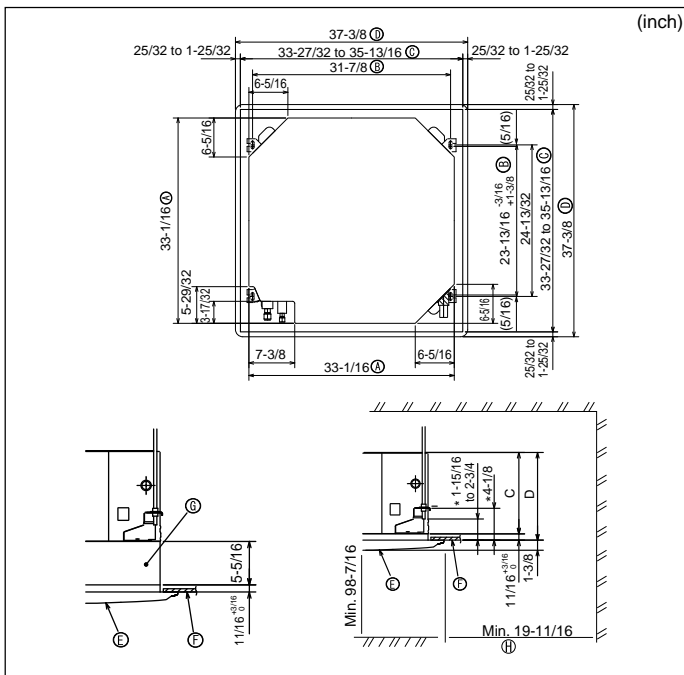

Fig. 3-2
④	Band	8
⑤	Screw with washer (M5 × 25) for mounting grille	4
⑥	Drain socket	1
⑦	Insulation	1
3.2. Ceiling openings and suspension bolt installation locations (Fig. 3-2)
- The dimensions of ceiling opening can be regulated within the range shown in Fig.3-2; so center the main unit against the opening of ceiling, ensuring that the respective opposite sides on all sides of the clearance between them becomes identical.